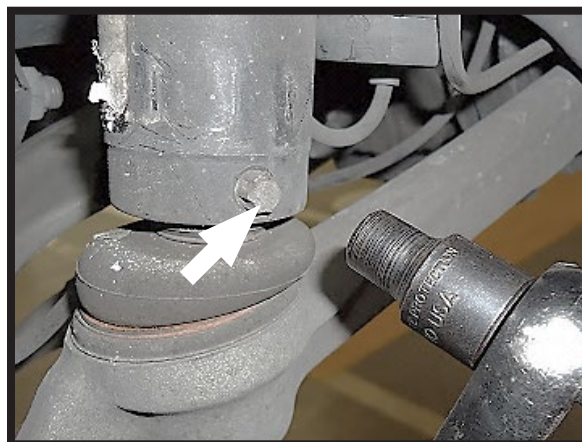

FIGURE 10-13
7. LOCATE AND LOOSEN LOWER MOUNT SET SCREWS. (FIGURE 10-13)